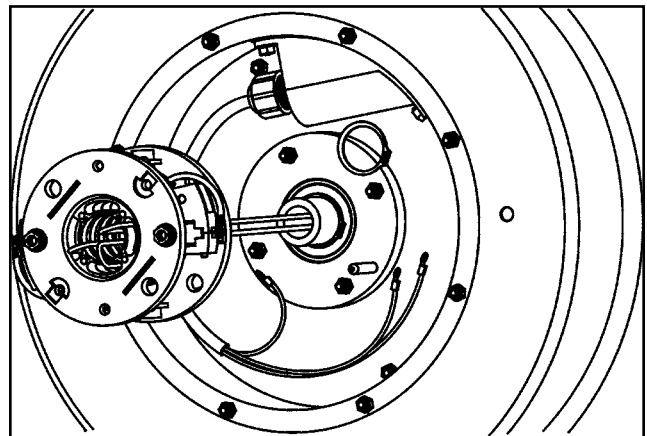

Figure 21-2
8. Remove the 1-1/2" Snap ring securing the Spool on the shaft. See **Figure 21-2**.